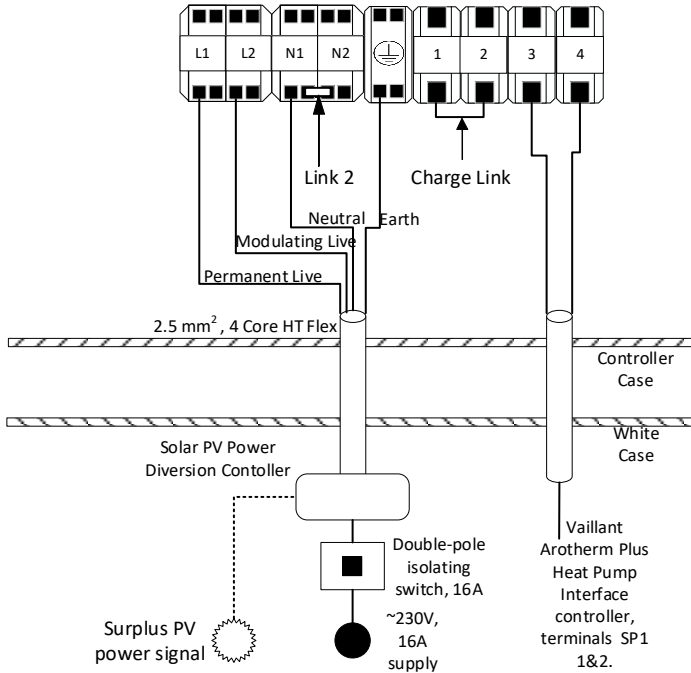

Figure 5: Thermino hpPV-VT system wiring
- Run and connect 4 Core mains power supply cable (16A, minimum 2.5mm² CSA) from the Solar Power Diverter to the Heat Battery. (Thermino iPV installation manual, Section 3.9 and Figures 5 and 6 below).
- Wire the cable via the appliance case grommets and into the control box housing (Thermino iPV installation manual, Figure 8 and Figures 5 and 6 below).
- Prepare if necessary and wire the mains power cable in the following terminals (Thermino iPV installation manual, Figure 10 and Figure 5 and 6 below):
terminals 1&2 (please refer to Vaillant Arotherm Plus Installation manual). Please run the wire into the heat battery appliance via the appliance case cabling grommets and then into the control box housing through the hole available. Secure the cables in Terminals T3 & T4 independently (Figure 5).